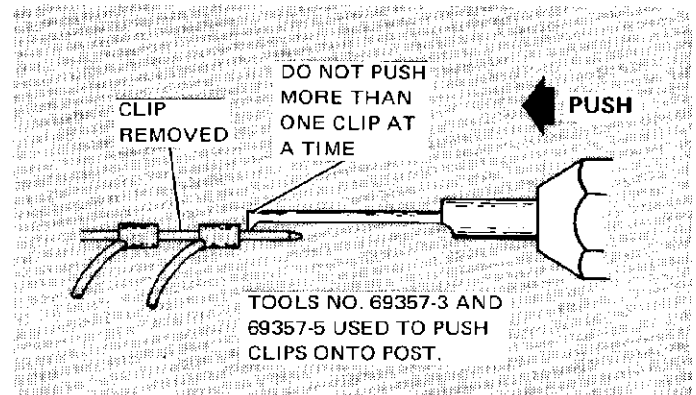

Figure 3
- Position flat tip of tool against clip on post. See Figure 3. NOTE: *TO INSURE CONTACT RELIABILITY, THIS TOOL SHOULD NOT BE USED TO PUSH MORE THAN ONE CLIP AT A TIME.*